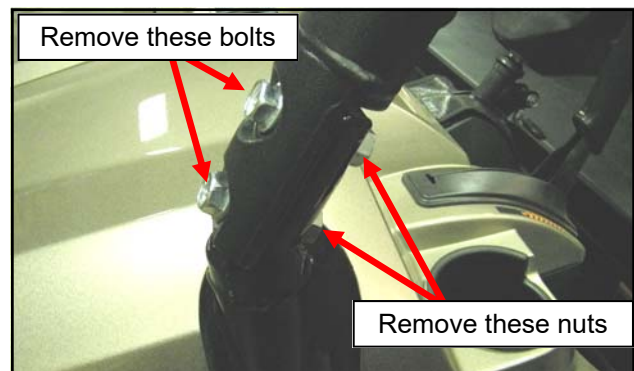

Fig. 1.4 Front ROPS M12 bolts (4)
1.4 Per figure 1.4, remove and discard the two (2) M12 bolts and nuts from each of the front corners of the ROPS (Rollover Protective Structure).